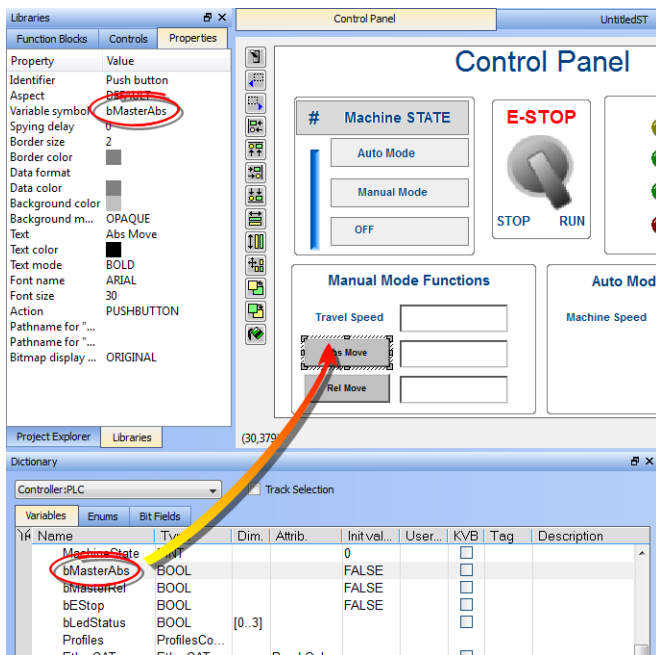

Figure 10-20: Map Variables to a Control Panel Control in the Graphical Editor
- Move it to the control to be linked in the Control panel editor using drag-and-drop. (Figure 10-20)